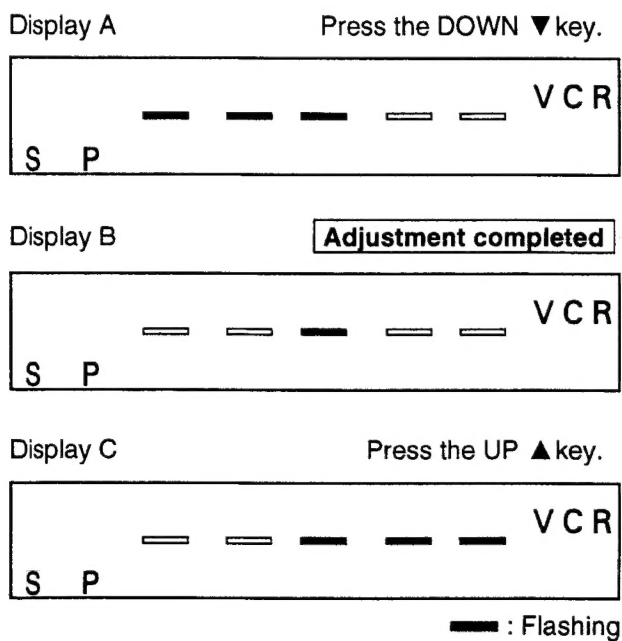

Figure 2
- (2) Playback the test tape and allow the automatic ATR to finish.
- (3) Connect the lead attached in step (1) to the Tuner (ETA01) earth line. (Make sure that the lead can not come loose.)
- (4) Adjust the display for FIP (H701) with the CH UP/DOWN (▲/▼) keys until it is as shown in Figure 2 Display B below.
- (5) Remove the lead.